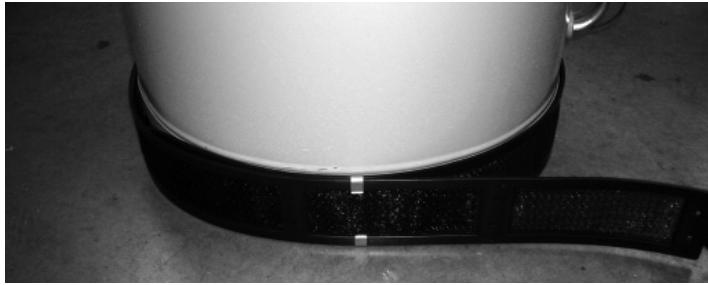

Figure 7
3. Wrap the filter snuggly around the base of the water heater (See Figure 7).
4. Use the metal clips provided in the filter kit to join the sections to form a circle. See Figure 7. Any excess filter material may be trimmed away.